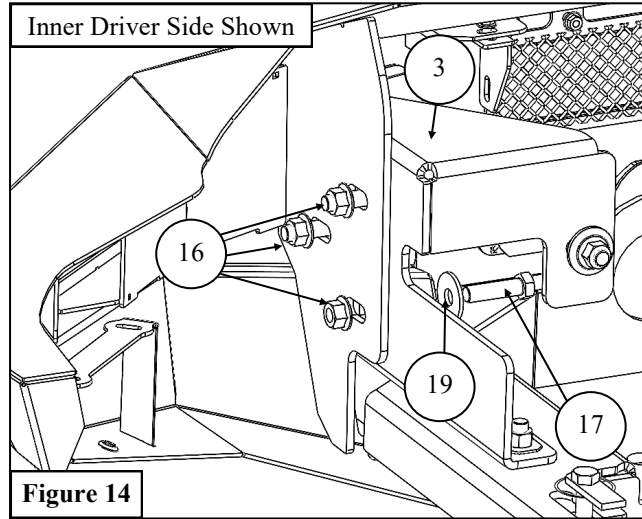

Figure 14
15. With help, loosely assemble the bumper assembly to the Main Mounting Brackets using supplied M12 hardware. See **Figure 14** for reference.